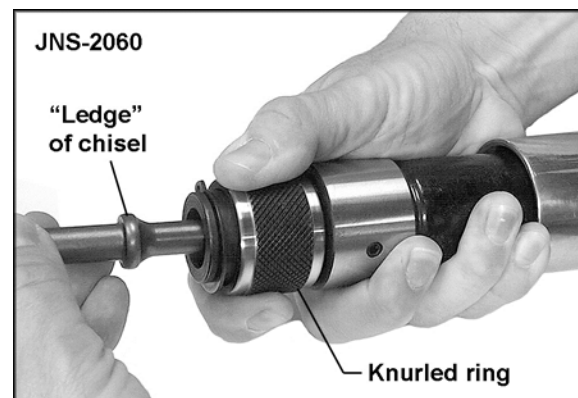

Figure 1
2. Pull back on the knurled ring of the chuck and insert the chisel shank into the chuck (Figure 1). The ledge on the shank must go beyond the four steel balls inside the chuck in order to be secured. (NOTE: It may require some force to move the chisel ledge beyond the steel balls.) When the chisel is installed, release the knurled ring.